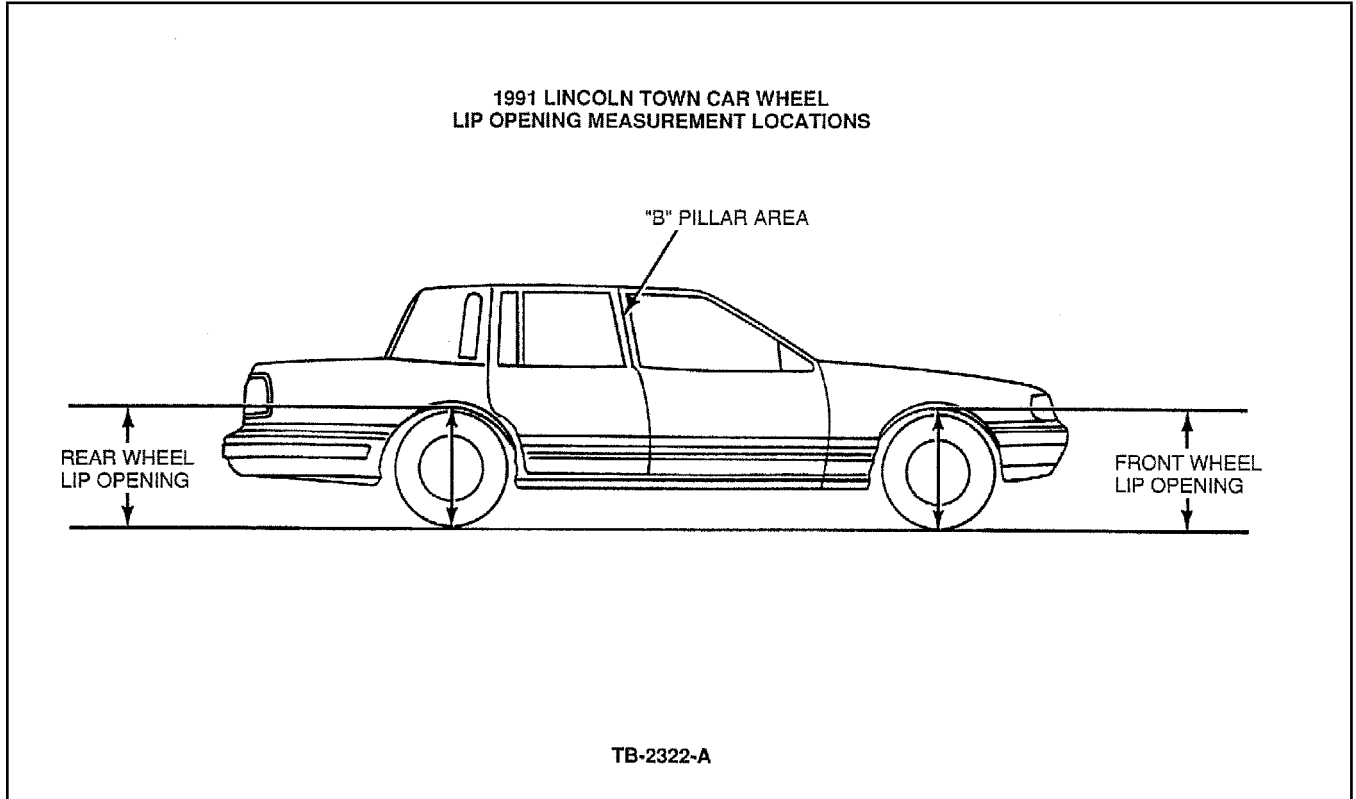

Figure 1 - Article 91-22-2
4. Equalize the suspension by shaking the vehicle side-to-side from the "B" pillar joint before taking wheel lip measurements, Figure 1.
THE FENDER WHEEL LIP MEASUREMENT IS THE VERTICAL DISTANCE FROM THE FENDER WHEEL LIP TO THE GROUND WHILE PASSING THROUGH THE CENTER OF THE WHEEL, FIGURE 1.